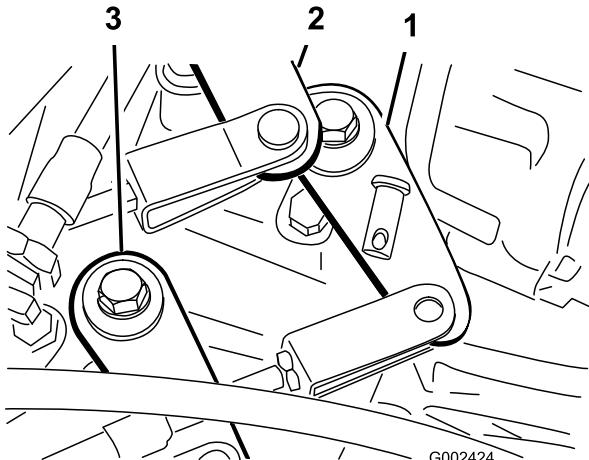

Figure 43
2. Remove the clevis pins securing the shift cables to the transaxle shift arms (Figure 43).
1. Remove the clevis pin securing the High–Low cable to the transaxle (Figure 43).